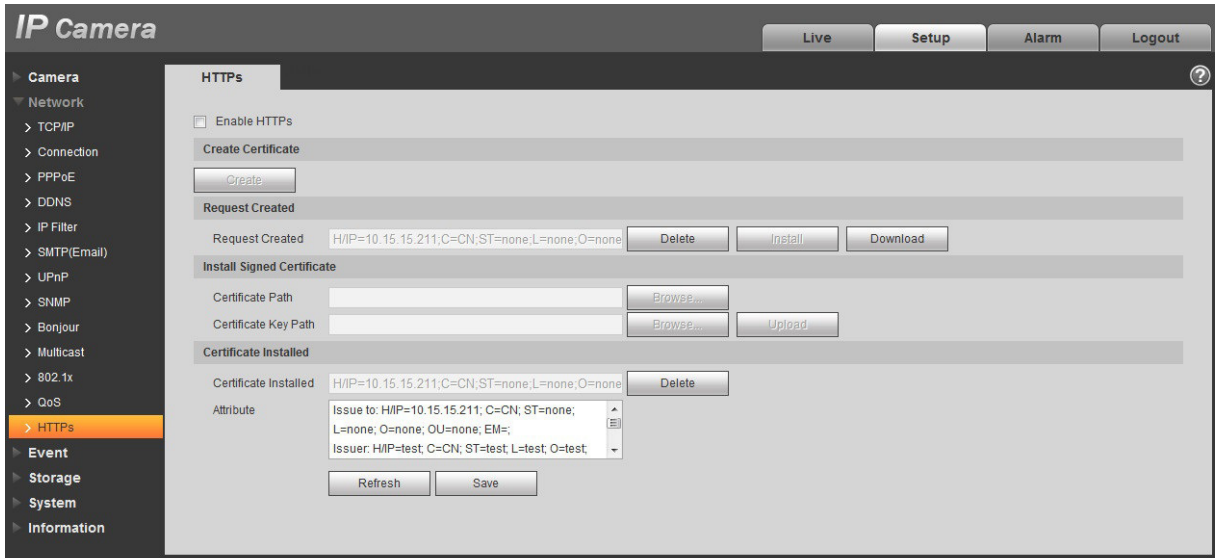

Figure 5-53
4. Click “Install” and it will install the certificate on the device end, which is shown in Figure 5-53.